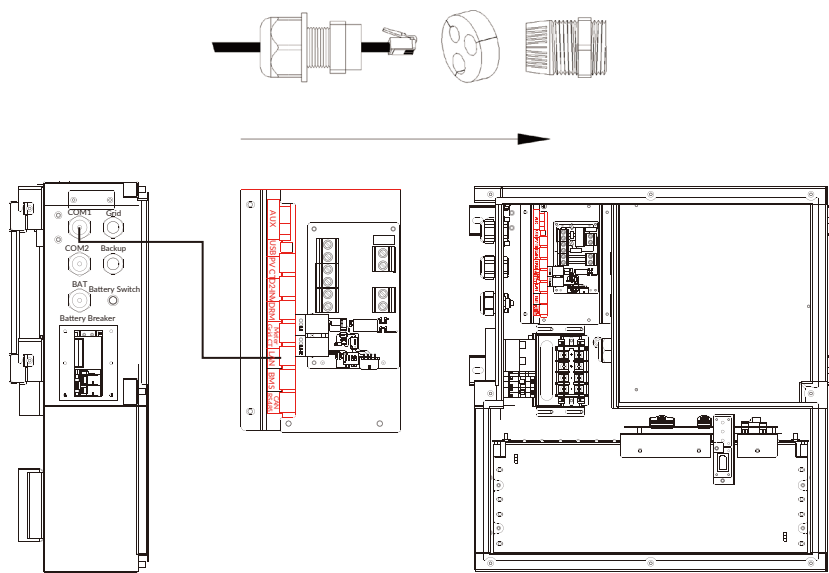

Figure 2.15 Ethernet Communication Cable Wiring
Step 10 Install ethernet communication cable, as shown in Figure 2.15. It won't be needed if the WiFi module will be used.